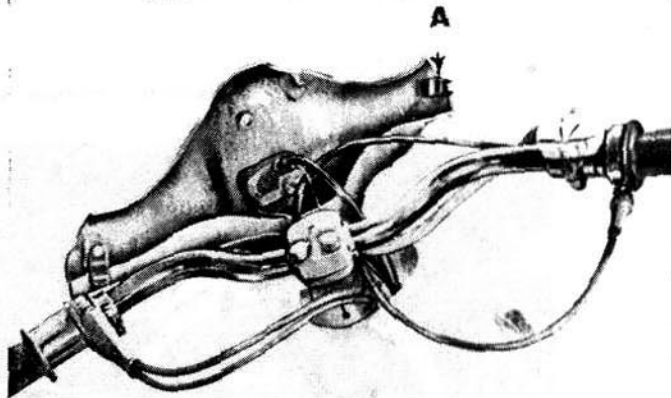

Fig. 36
- (2) Unscrew cable anchoring ring locking screw (see point A. fig. 36). Lift cowl to facilitate further operations.
- (3) Withdraw speedometer light bulb holder from its seat. (This operation serves also when bulb is to be changed). During successive operations, ensure that the bulb does not receive knocks which will cause damage.
- (4) Unscrew the speedometer cable fixing ring and draw out end of cable.